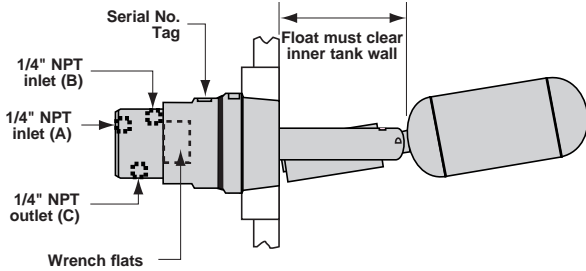

Figure 3
- Nozzle length and inside diameter must be sized correctly to allow for switch actuation at design levels. Refer to **Figure 3**.
- Connect the inlet air line to the 1/4" NPT connection for either air inlet A or air inlet B, depending on the valve action desired (refer to Table 1). Inlet air pressure should be between 0–13.8 bar (0–200 PSIG). Refer to Figure 3 for location of air inlets.
- Connect outlet air line to the 1/4" NPT connection on the bottom of the valve. This air outlet is designated with a "C". Refer to **Figure 3** for location.
1. Use only the 2" wrench flats to install or remove the unit. Refer to **Figure 3**. Use of any other surface could change the calibration. The valve body is calibrated at the factory and locked in place.